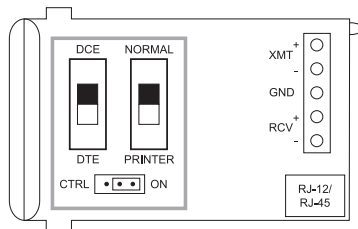
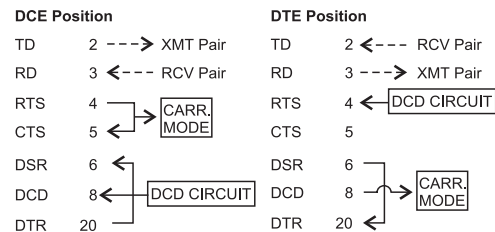

Figure 1. Switch/Jumper Locations
Figure 2. DCE/DTE Switch Configuration
- SRM-5AC features a switch-selectable DTE/DCE interface, and a switch-selectable Printer Support Mode. It also includes a jumper for configuring the modem's carrier to be constantly ON or controlled by RTS (see *Figure 1*).
2. Configure the modem carrier to be constantly ON or controlled by RTS (see *Figure 1* and *Table 2*).
3. Select the SRM-5AC operation mode – DTE or DCE (see *Figure 1*, *Figure 2* and *Table 2*).
4. Configure the modem to operate normally or in the Printer Support Mode (see *Figure 1* and *Table 2*).